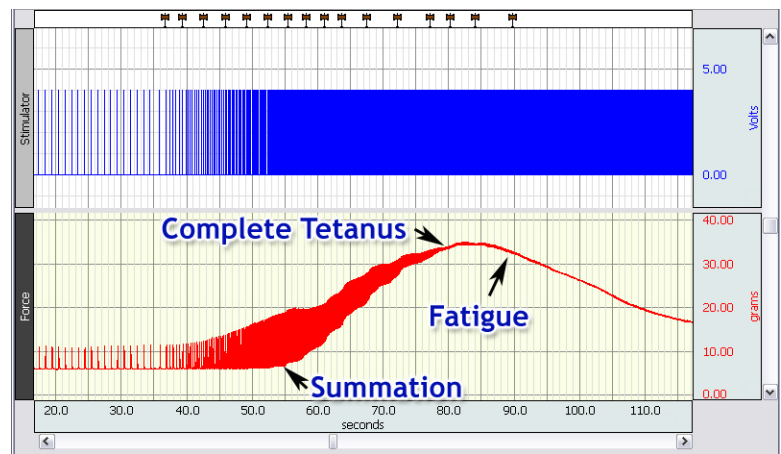

Figure 19
6. Let the recording continue, without changing the pulse frequency, until after the point of fatigue has been reached (see example in Figure 19).